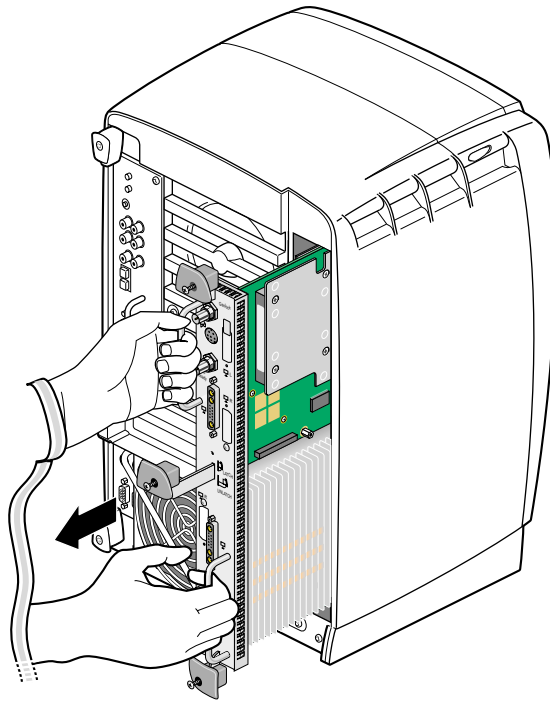

Figure 5-4 Removing the Dual Head XIO Module
3. Grasp the handles on the Dual Head XIO module and slide the module out of the chassis, as shown in Figure 5-4. You may also wish to support the bottom of the module while sliding it out.